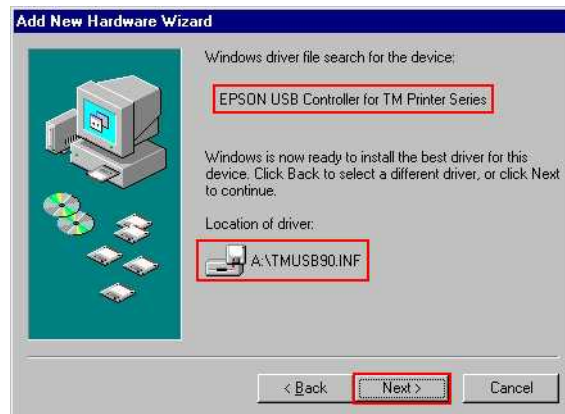

Figure 3-2
10. When the message [Search for driver files for the following hardware device. EPSON USB Controller for TM Printer Series. Windows is now ready to install the best for this device?.] appears as the figure 3-2, click **Next**. Then click **Finish** on the next window.